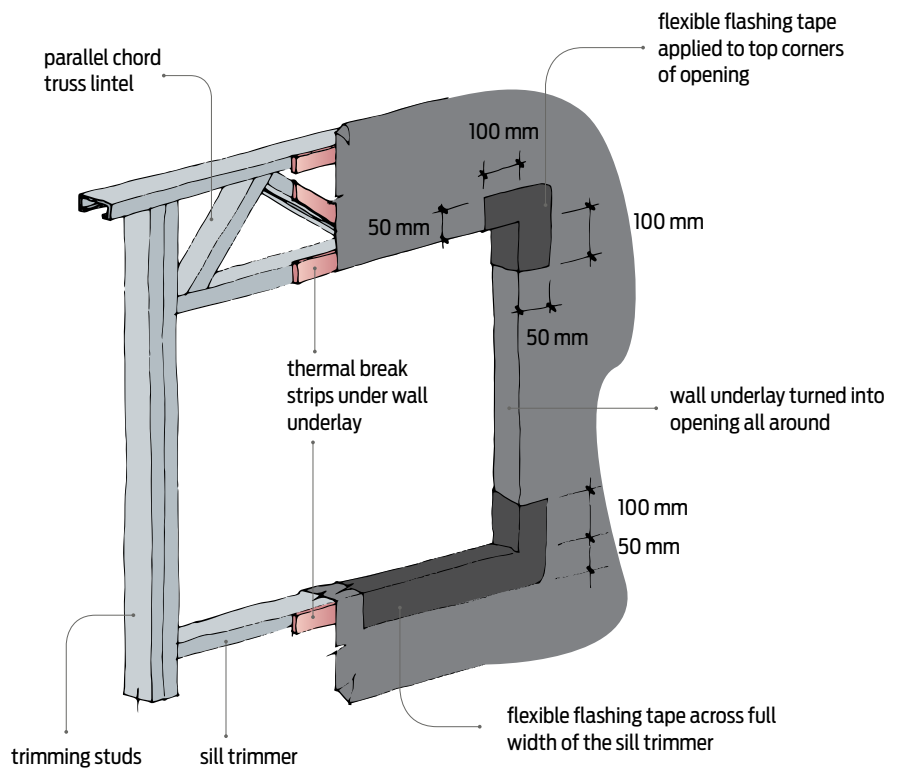

Figure 51
- Flexible flashing tape applied to the top corners of window and door openings and extended 100 mm from the corners both horizontally and vertically (see Figure 51).
- Flexible flashing tape applied across the full opening width of the sill and extended vertically 100 mm up the trimming studs under the jamb battens (see Figure 51).